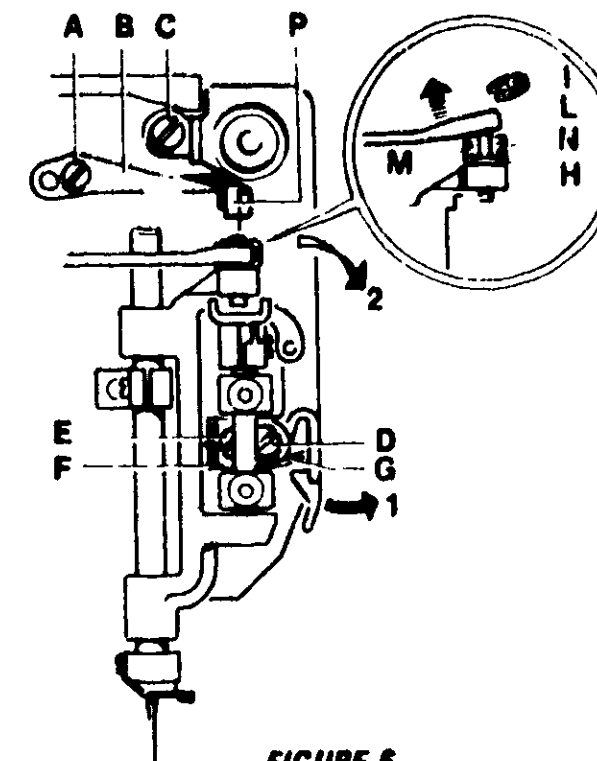

FIGURE 6
To remove the tension assembly from the machine, first remove adjuster ring (M) (Figure 6) from the pivot rod of the needle bar holder. To do this, remove "E" clip (I) and then lift connecting rod (L) in order to gain access and loosen screws (M) and (N). Remove adjuster ring (H).
- Rotate handwheel until take up lever is in its lowest position. Remove screw (A) (Figure 6) and remove lever (B).
- Remove screws (C) and (D). NOTE: It may be necessary to loosen screw E and rotate bracket (F) to remove screw (D) if checkspring (G) interferes with removal of screw (D).
- Push lower part of tension assembly in the direction indicated by arrow (1) in Figure 6 and then rotate it as shown by arrow (2). This dual motion will facilitate removal.